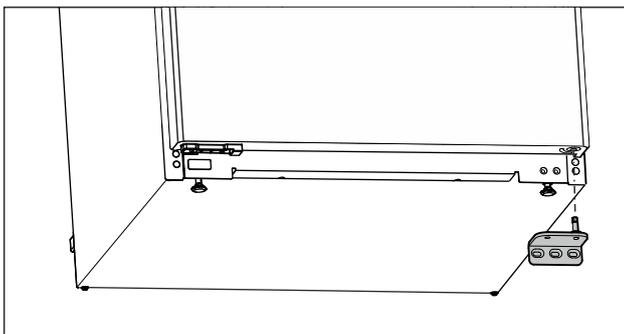

Fig. 14
- ▶ Remove the swap bearing block downwards. (see Fig. 14)